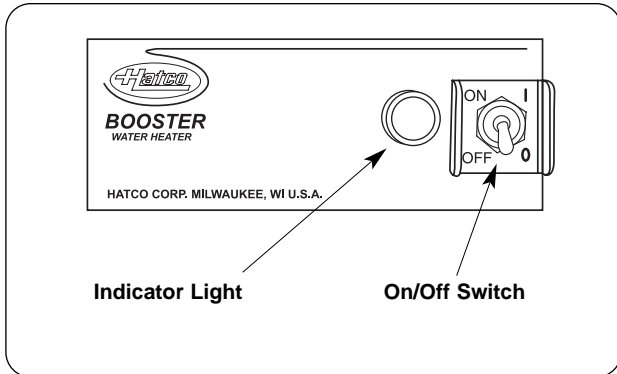

Figure 17. Controls-Imperial and Compact Models
6. Turn on the electrical supply to the booster heater. On Imperial and Compact models, position the on/off switch to the ON position and the indicator light will come on. (See Figure 17.)